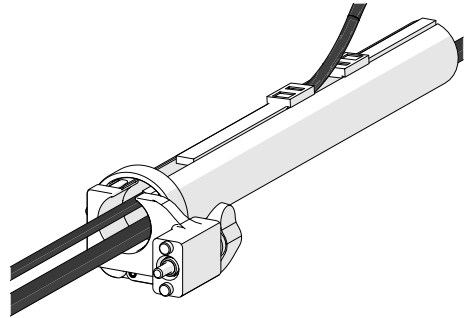

**Fig. 236** - Zip to close
2. Follow the cable placement zipping the tube closed (*Fig. 236*).